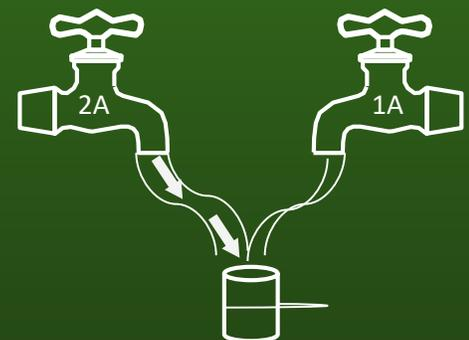

Figure A4.4. Modeling the flow of current in 1A and 2A circuits, water faucet analogy. More water is flowing from the 2A faucet than the 1A faucet.
- ❑ Current is measured in **Amperes (A)**, or simply amps.
- ❑ What is the difference between a 1 Amp and 2 Amp **circuit**? Flowing through the 2A circuit are twice as many charge carriers passing through any given cross section of the object at any given time (*Figure A4.2* and *Figure A4.3*). Imagine the flow of water coming out of a water faucet that is turned on halfway compared to on all the way. (*Figure A4.4*)